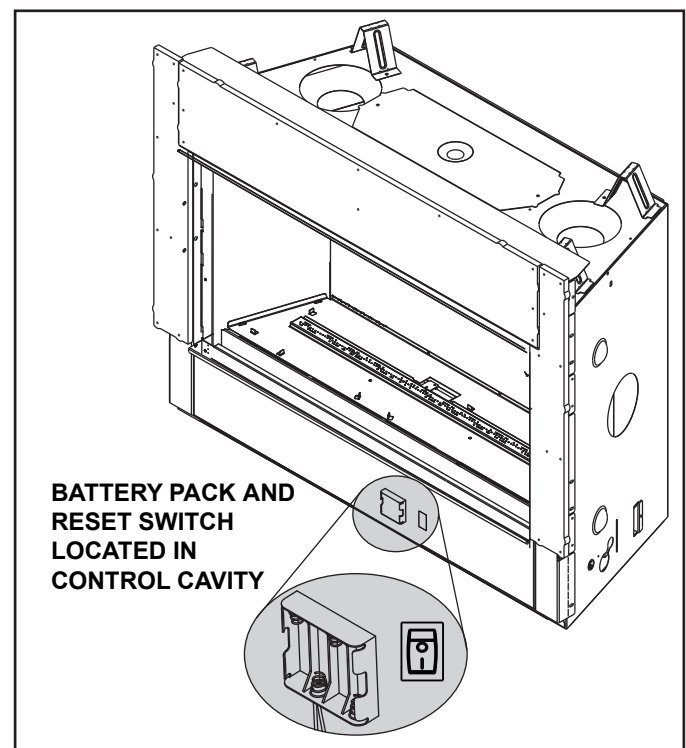
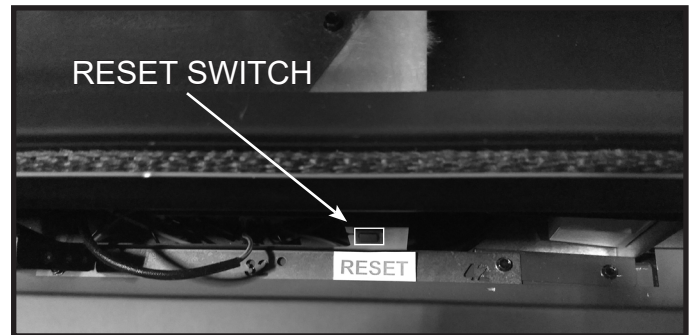

Figure 3.8 Battery Pack Location/Control Cavity
Figure 3.10 Reset Switch Location
The IntelliFire Touch® intermittent pilot ignition system comes with a battery backup system that enables the system to operate in a power outage. The system offers seamless transition from household AC power to battery backup. A factory-installed battery pack is located in the control cavity of the appliance. See Figure 3.8. Battery longevity and performance will be affected by long term exposure to the service temperatures of this appliance.
1. The battery pack is located in the control cavity of the appliance. To access the control cavity of the appliance Remove the decorative barrier front and glass assembly. See Section 4 for instructions on glass assembly removal. See Figure 3.8 for location of battery pack.
2. Locate the battery pack and remove it from the control cavity. It is held in place by hook and loop fastener. Insert four AA cell batteries. Battery polarity must be correct or module damage will occur. See Figure 3.8. A complete wiring diagram is included in the Electrical section of the appliance Installation Manual.
The appliance has a reset switch located inside the control cavity. See Figure 3.8 and Figure 3.10 for approximate location.
- Locate reset switch inside the appliance. See Figure 3.10. Switch is located above the “RESET” label. Hold reset switch down for one second and release. A “beep” will signal module is reset.